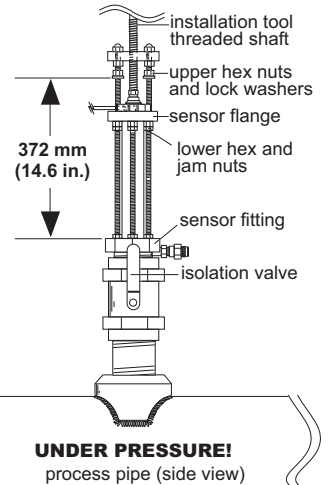

Fig. 15
- B. Thread installation tool in place and secure bearing plate in place of sensor protector plate. (Fig. 15)